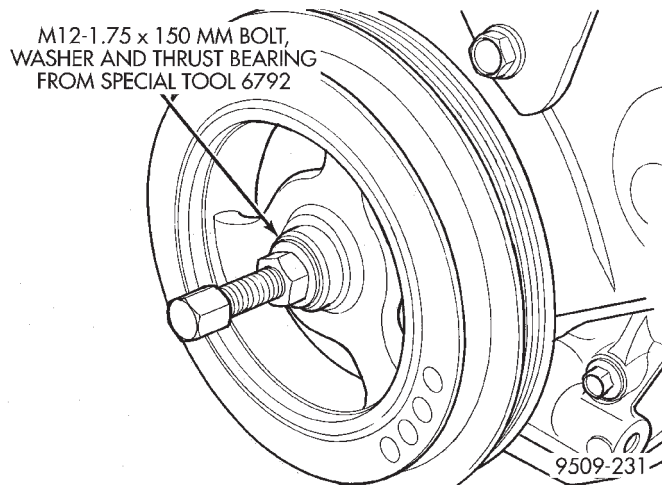

Fig. 84 Crankshaft Damper—Installation
(1) Install crankshaft damper using M12-1.75 x 150 mm bolt, washer, thrust bearing and nut from Special Tool 6792. Install crankshaft damper bolt and tighten to 142 N·m (105 ft. lbs.) (Fig. 84).
(2) Install accessory drive belts. Refer to Group 7, Cooling System Accessory Drive section for procedure.